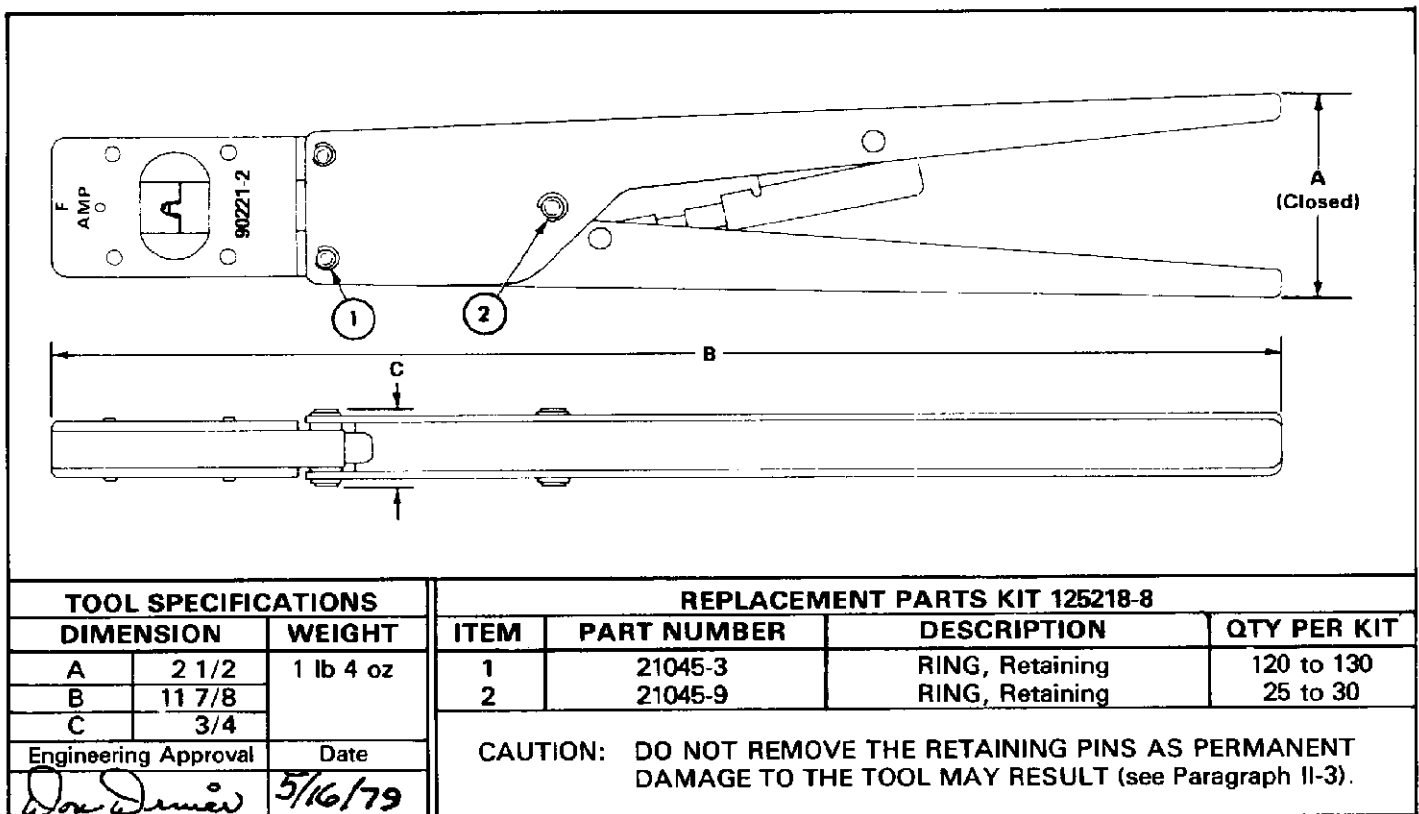

Fig. II-1
Customer replaceable parts are listed in Figure II-1. A complete inventory should be stocked and controlled to prevent lost time when replacement of parts is necessary. When kit items are needed, order replacement kit part number.
2. Make certain all retaining pins are in place and secured with retaining rings. If replacements are necessary, refer to parts listed in Figure II-1.
Parts other than those specified in Figure II-1 must be replaced by AMP to ensure certification of the tool. When repair is necessary, return the tool with a written description of the problem to: